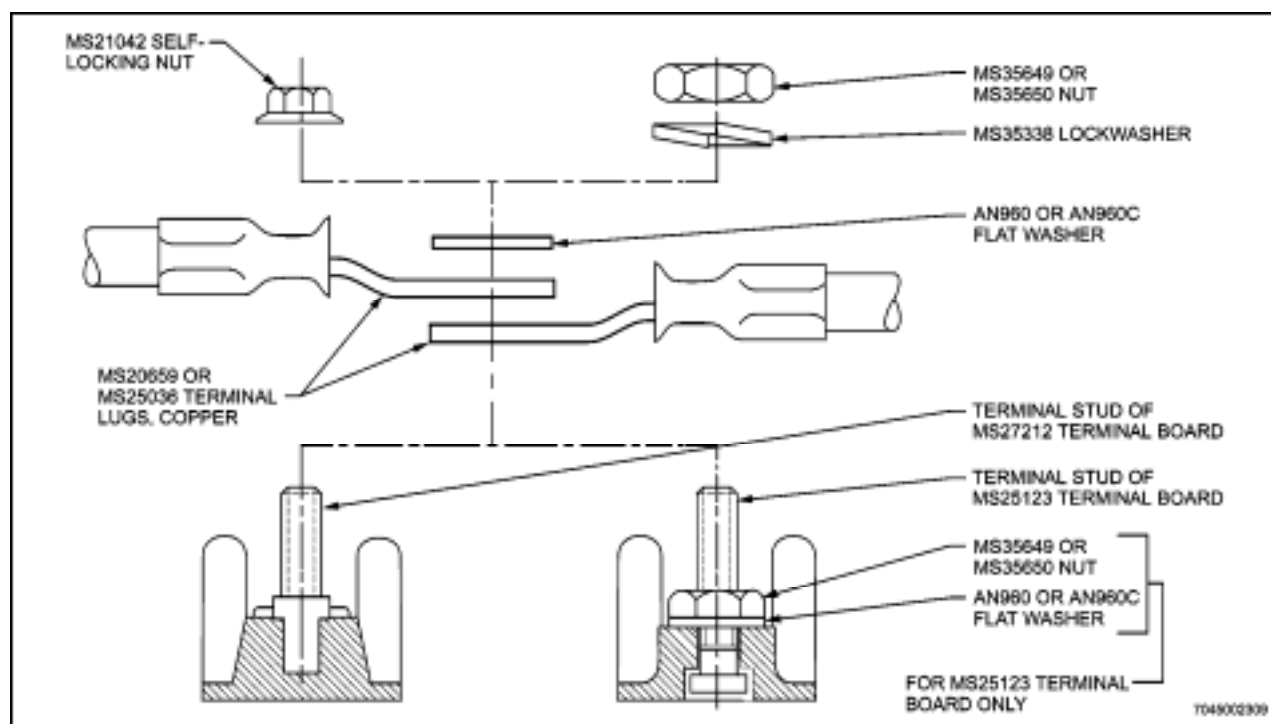

Figure 4-18 Hardware for Wiring Terminal Boards With Copper Terminals
62. MS27212 terminal boards have studs moulded in and therefore do not require hardware for attaching studs to the terminal board. Use same hardware for installing terminal lugs for MS25123 terminal boards (refer to paragraph 56 and Figure 4-18). Mounting screws are insulated with MS3373 insulators when using MS27212 terminal boards.